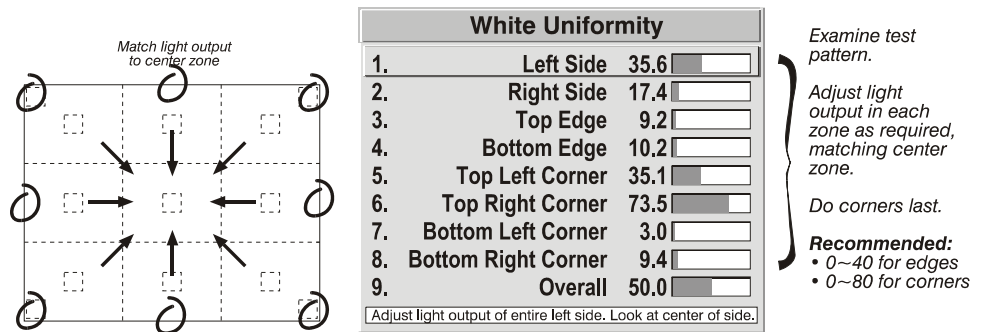

Figure 3.32. Match Zones to Center Light Output
- 3a) For each screen, compare the light output of each *edge* and *corner* to that of the *center*. If any of the areas differ, use the *White Uniformity* menu to match edges and corners to the center as described below (see Figure 3.32). Begin with the screen exhibiting the most obvious variations in light output.